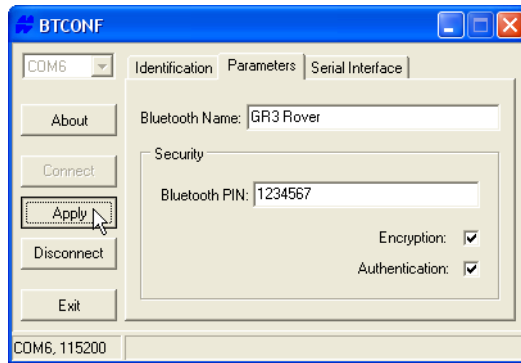

Figure 2-23. BTCONF Security Parameters
7. To set security parameters (Figure 2-23 on page 2-25), enter and enable the following, then click **Apply**: